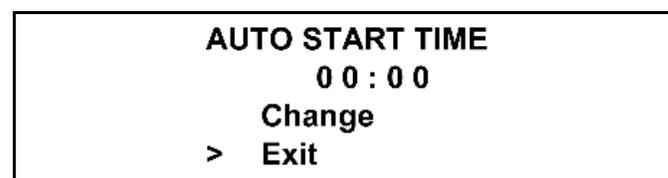

Figure 2-51
2. Select the Calibration key  to advance to the next screen. (See Figure 2-51.)